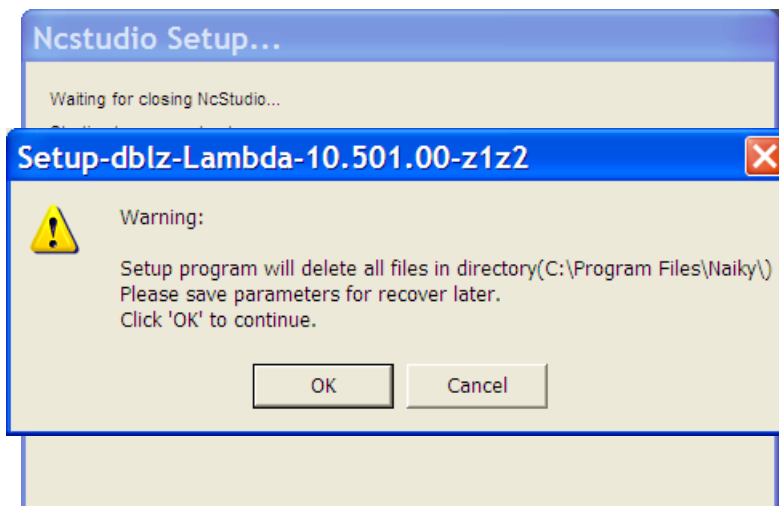

Fig. 2-16 Warning to delete previous files
- 2) Continue installation. If the NcStudio system have been installed in this PC before, a prompt for deleting the previous files will be shown during installation, as shown in Fig. 2-16, click [OK] for confirmation and continue, click [No] to cancel and exit installation.